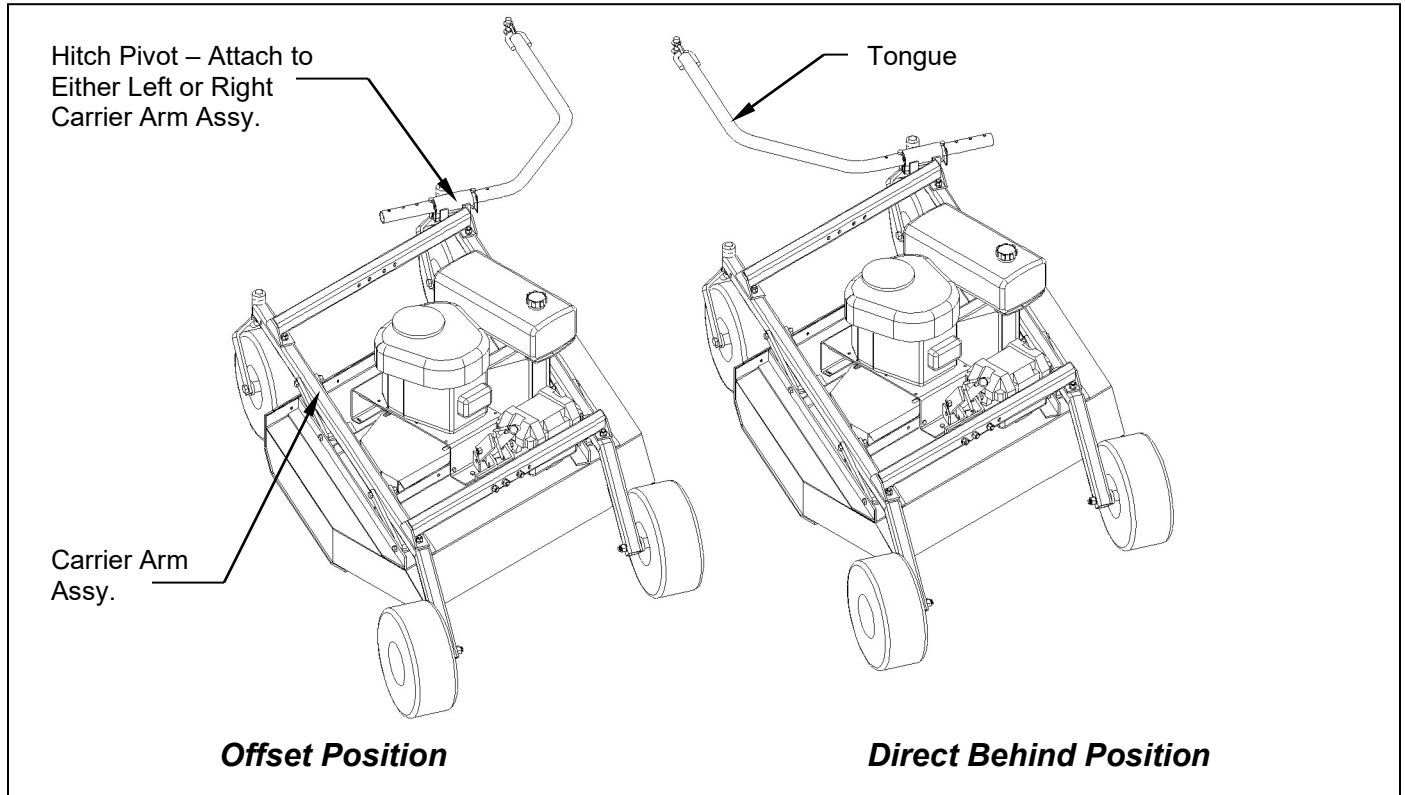

Figure 5: Assembly of the Tongue and Hitch Pivot
1. The tongue can be installed either on the left or right carrier arm assembly depending on how the tow-behind mower will be towed. **See figure 5.** Secure the hitch pivot on the chosen carrier arm assembly with the 1/2" x 3-1/2" hex head bolt, lock washer, and nut provided.
Note: When pulling the mower directly behind, the hitch pivot should be fastened on the right carrier arm for maximum maneuverability. **See Figure 5.** When pulling the mower in the offset position the hitch pivot can be fastened on either the right or left carrier arm. **See Figure 5.**